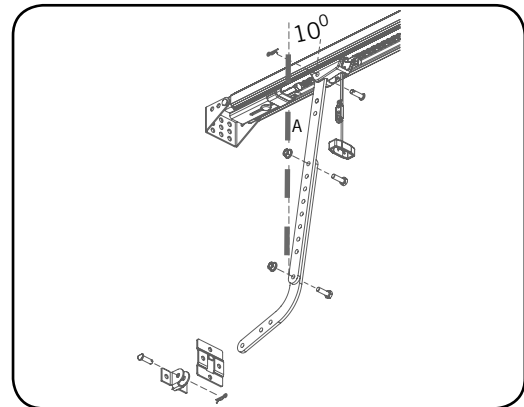

Fig. 20
- Assemble the bent and straight arms with bolts and nuts supplied in the accessory pack (Fig. 20). Always use both bent and straight arms.
- Connect the assembled arm to the bracket and the disengaged trolley with clevis and snap pins. The angle "A" must be more than 10° (Fig. 20).